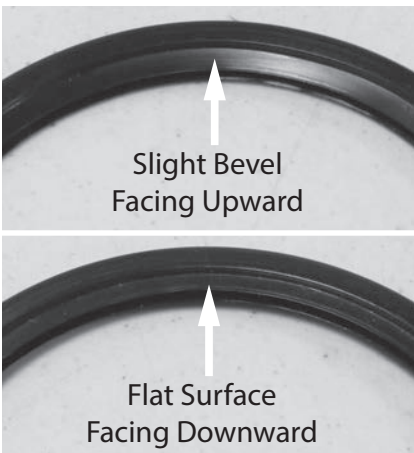

Figure 151 - Orient exhaust gasket
**50** Locate the exhaust gasket provided in the kit. Orient gasket so side with small flat surface is facing downward. The side facing upward will have a slight bevel. See Figure 151 as reference.